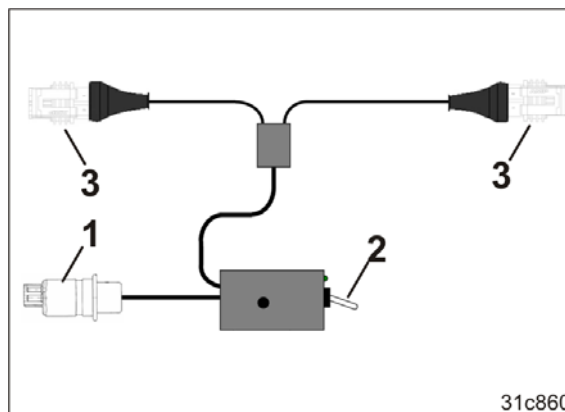

Fig. 149
18. Insert the plug (Fig. 149/1) for the coulter frame lighting into the socket in the tractor cab.
The switch (Fig. 149/2) is for switching the lighting on and off (Fig. 149/3).